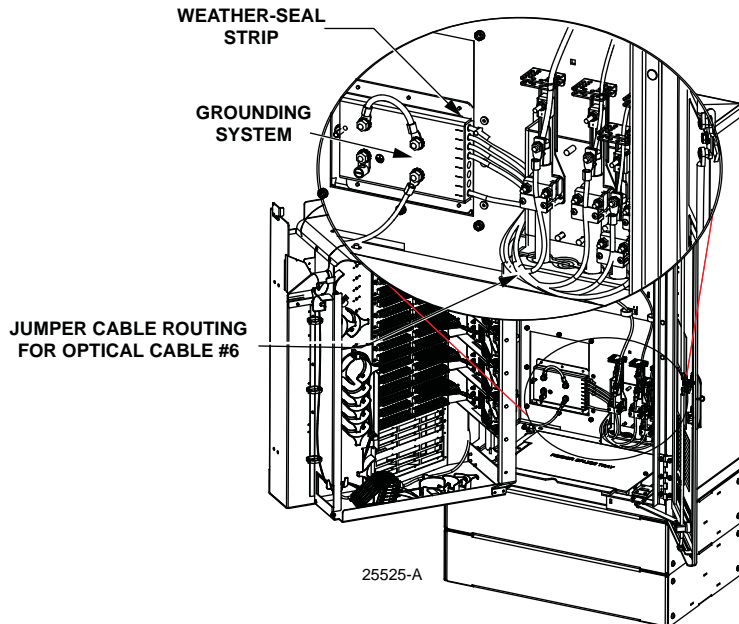

Figure 25. Cable Grounding System - Interior View
13. Locate the weather-seal strip attached to the right side of the cabinet grounding system as shown in Figure 25.